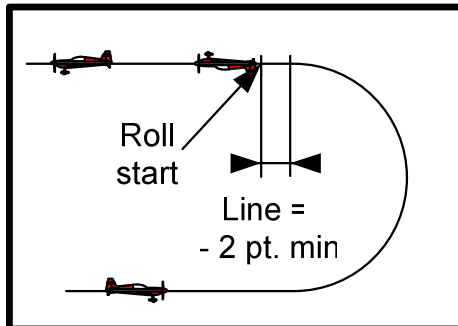
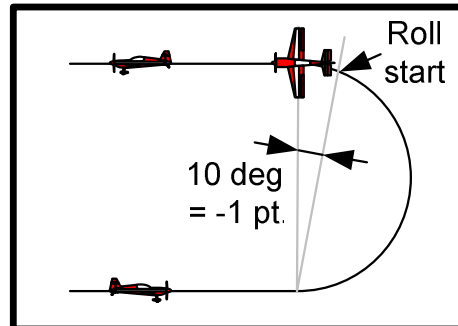

Fig. 29
Fig. 30
The half-loop followed by a roll is also flown with no line between the half-loop and roll. Again, drawing a line requires a downgrade of at least 2 points depending on the length of the line drawn (Fig. 29). Should the roll begin before the half-loop is completed, the judges must downgrade the figure one (1) point for every ten (10) degrees of half-loop on which the roll was performed (Fig. 30).